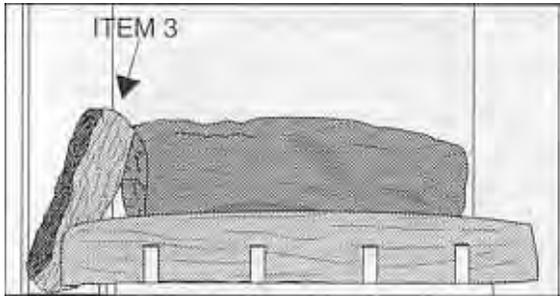

Figure 63
4. See **Figure 63**. One of the thin logs (**Item 3**) is installed next. Position this log with the "bark" of the log to the left. Place one end of the log behind the left side of the front log. Rest the opposite end of the log on the left edge of the Back Log.